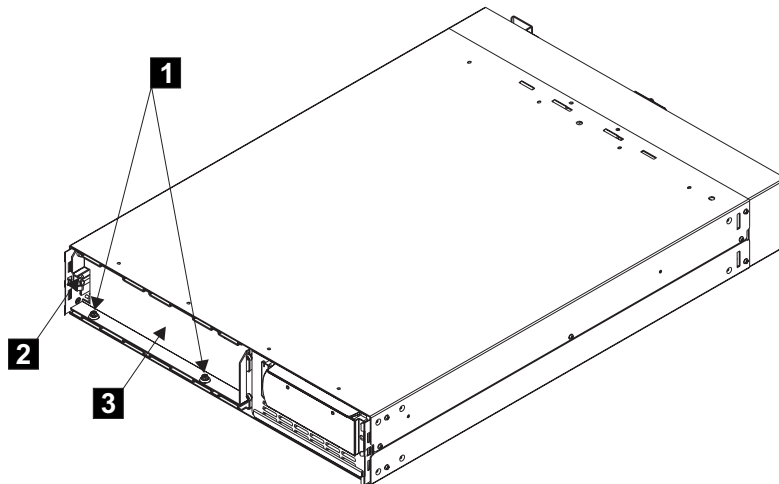

Figure 17. Removing the battery retaining bracket
- c. Remove the two bolts **1** and additional nut **2** on the left side of the bracket. Next, remove the battery retaining bracket **3**. See Figure 17 on page 43.